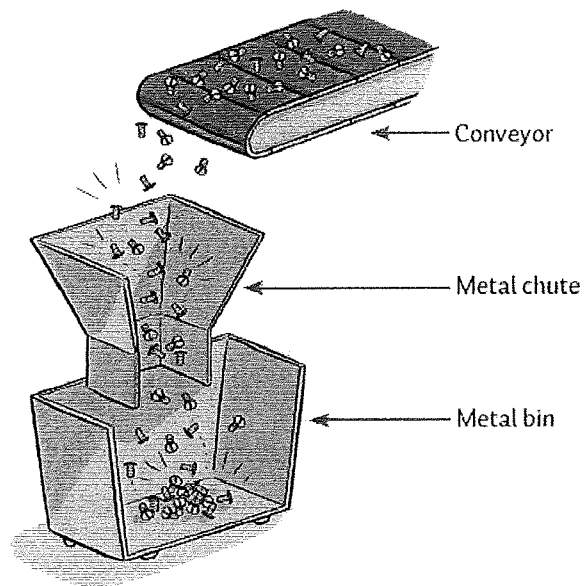

Figure 3 : Metal component conveyor system
- (c). Metal components are delivered by conveyor to a metal storage bin. The components are guided into the bin via a metal chute, as shown in Figure 3. Noise is produced by the metal components hitting the metal wall of the chute, as well as the metal base and walls of the storage bin. Identify the key issues in the system and propose a method to reduce the noise produced when the metal components struck the wall of the chute and bin.